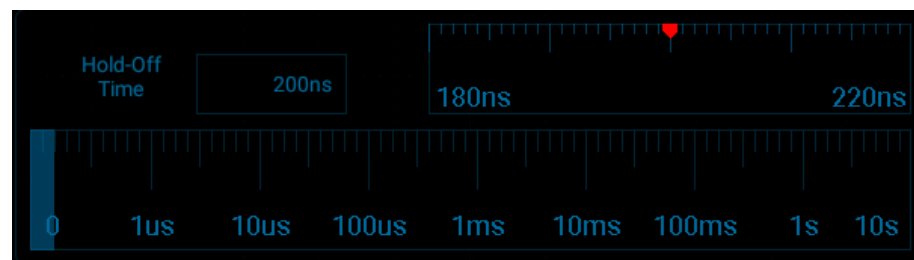

Figure 6-10 Trigger Hold-Off Time Set Interface
- 1) Tap “Trigger” on the main menu to open the trigger menu. Under “Common”, tap the box after “Rejection Time” to open the hold-off time adjustment interface. The trigger time is displayed on the upper left, the fine adjustment time scale is displayed on the upper right, and the coarse time scale is displayed below, as shown in Figure 6-10.